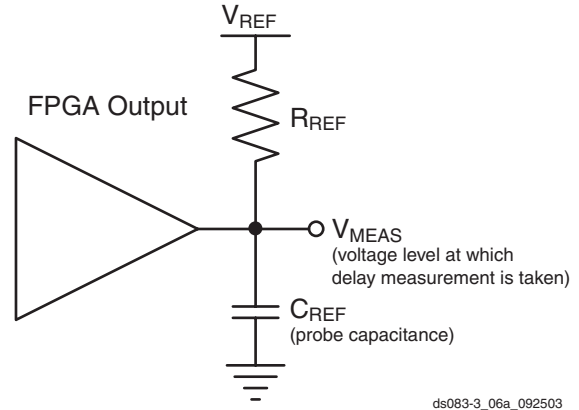

Figure 1: Generalized Test Setup
Output delays are measured using a Tektronix P6245 TDS500/600 probe (< 1 pF) across approximately 4" of FR4 microstrip trace. Standard termination was used for all testing. (See Virtex-II Platform FPGA User Guide for details.) The propagation delay of the 4" trace is characterized separately and subtracted from the final measurement, and is therefore not included in the generalized test setup shown in **Figure 1**.
2. Output timing is measured at 50% V_{CC} threshold with test setup shown in Figure 1. For other I/O standards, see Table 19.